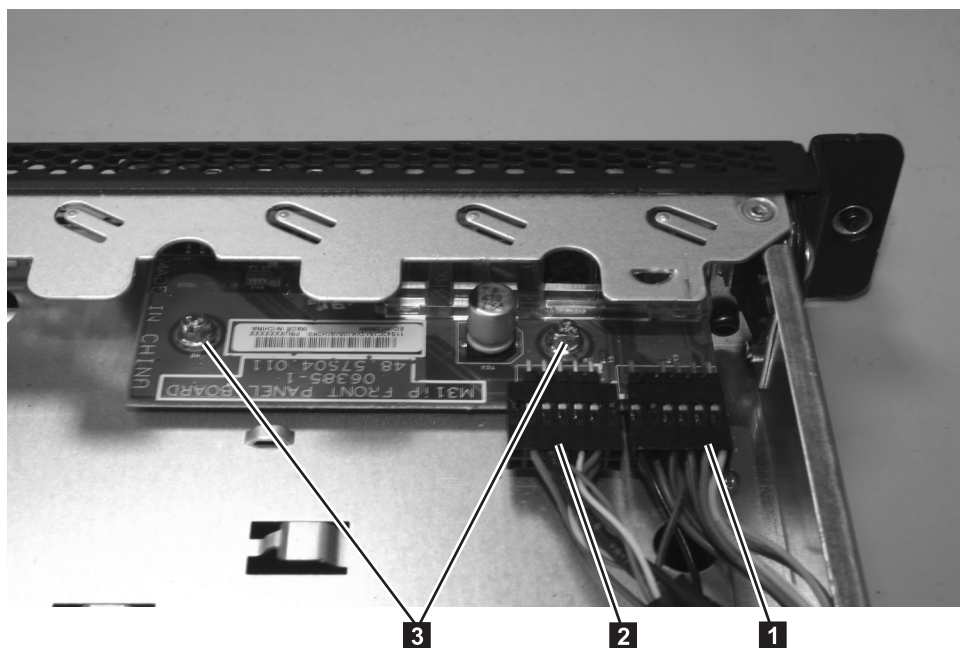

Figure 225. SAN Volume Controller 2145-8A4 operator-information panel
1. Connect the light panel cable **1** and the front USB cable **2**, shown in Figure 225, to the operator-information panel board.